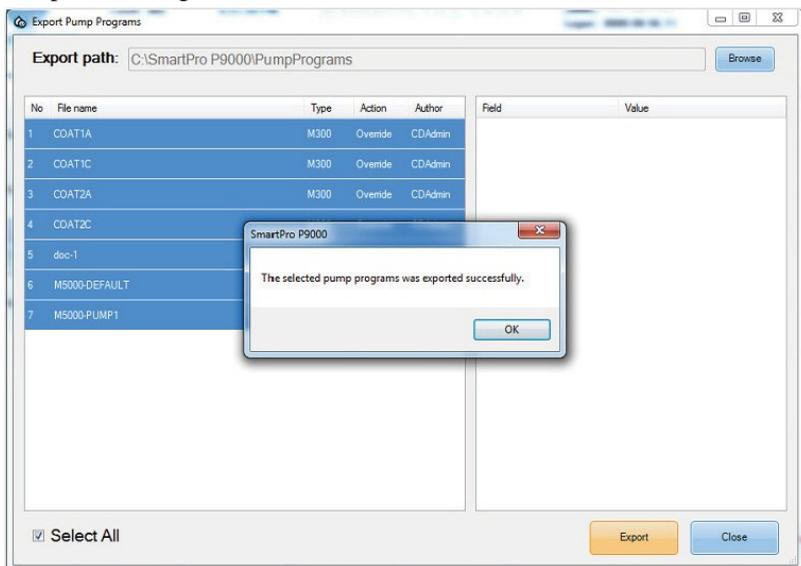

FIGURE 3-13: Exporting pump programs
3. On the Pumps page, click **Backup**. The Export Pump Programs dialog box opens. See Figure 3-13.